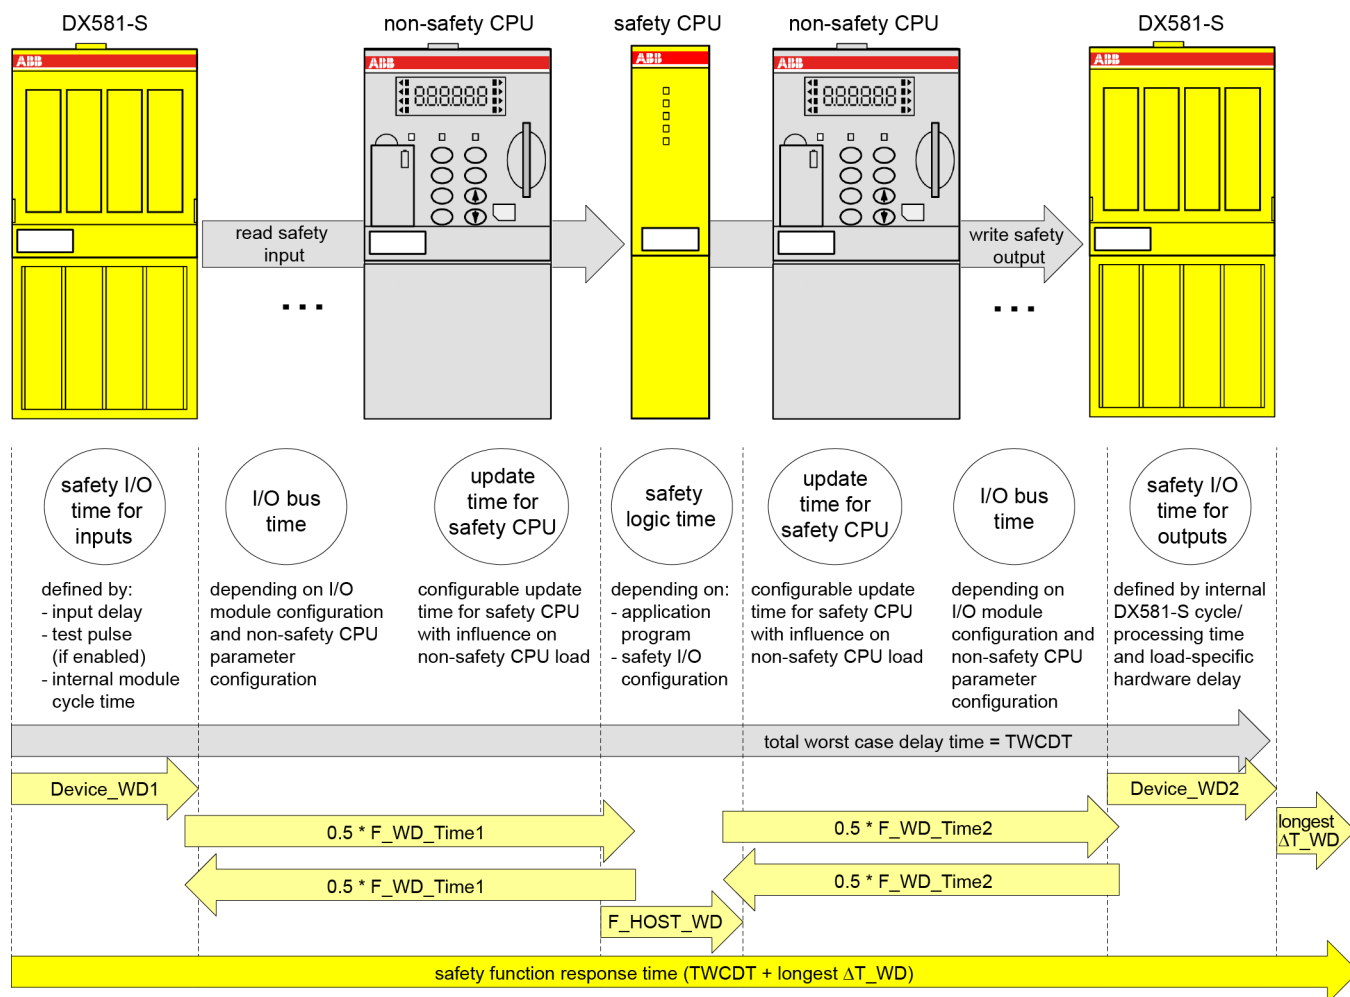
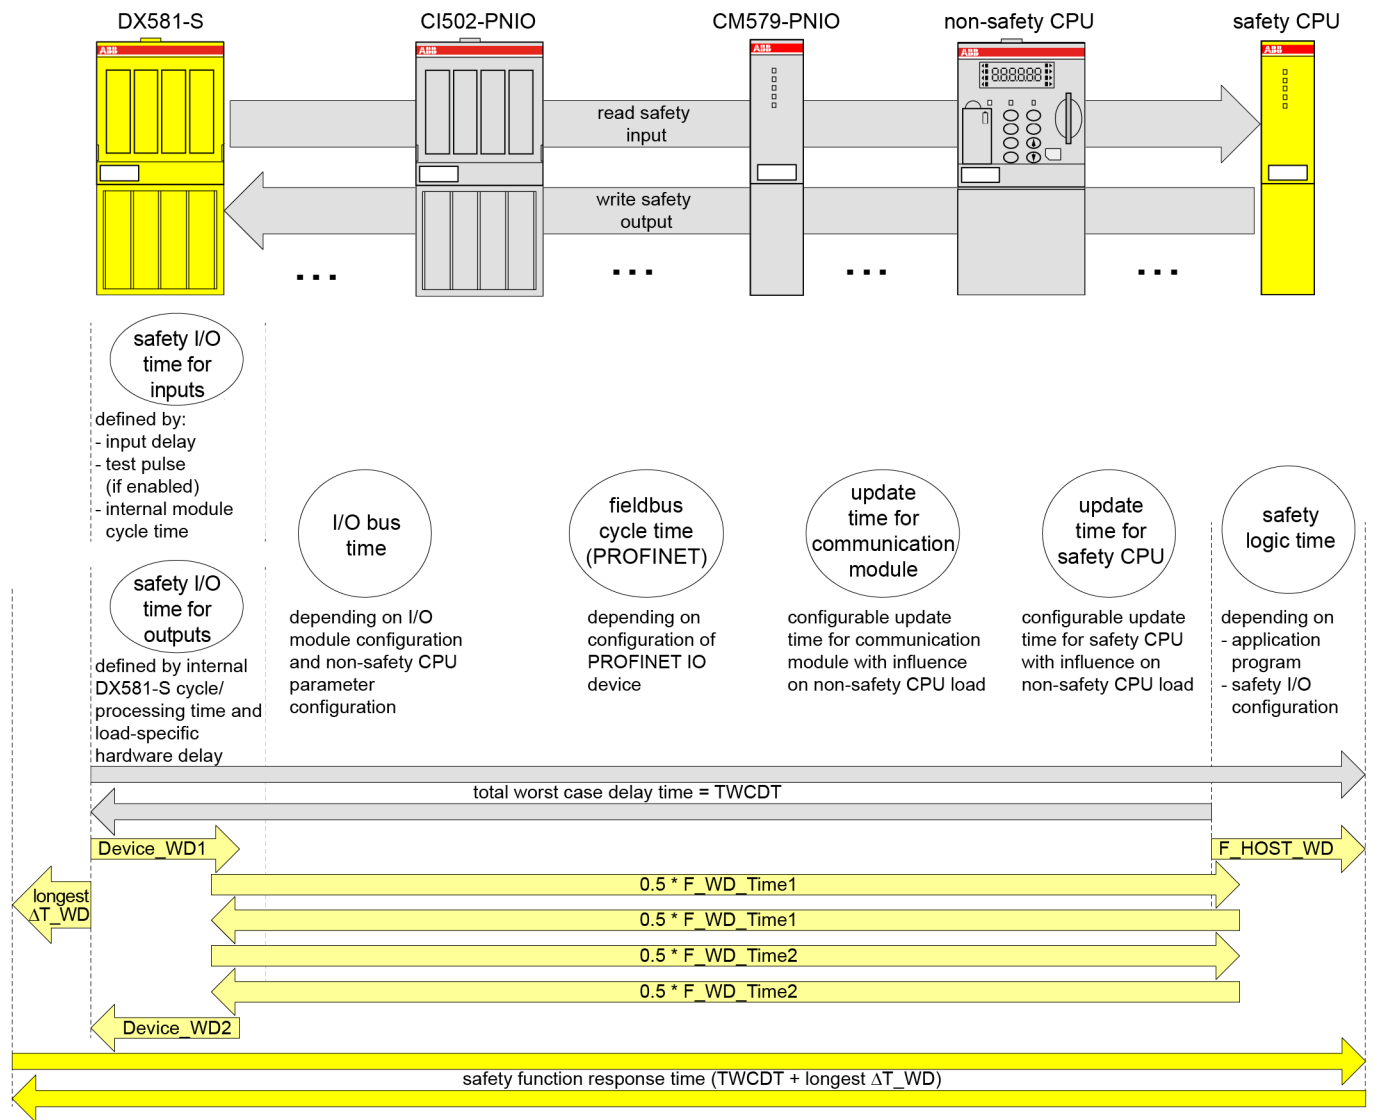
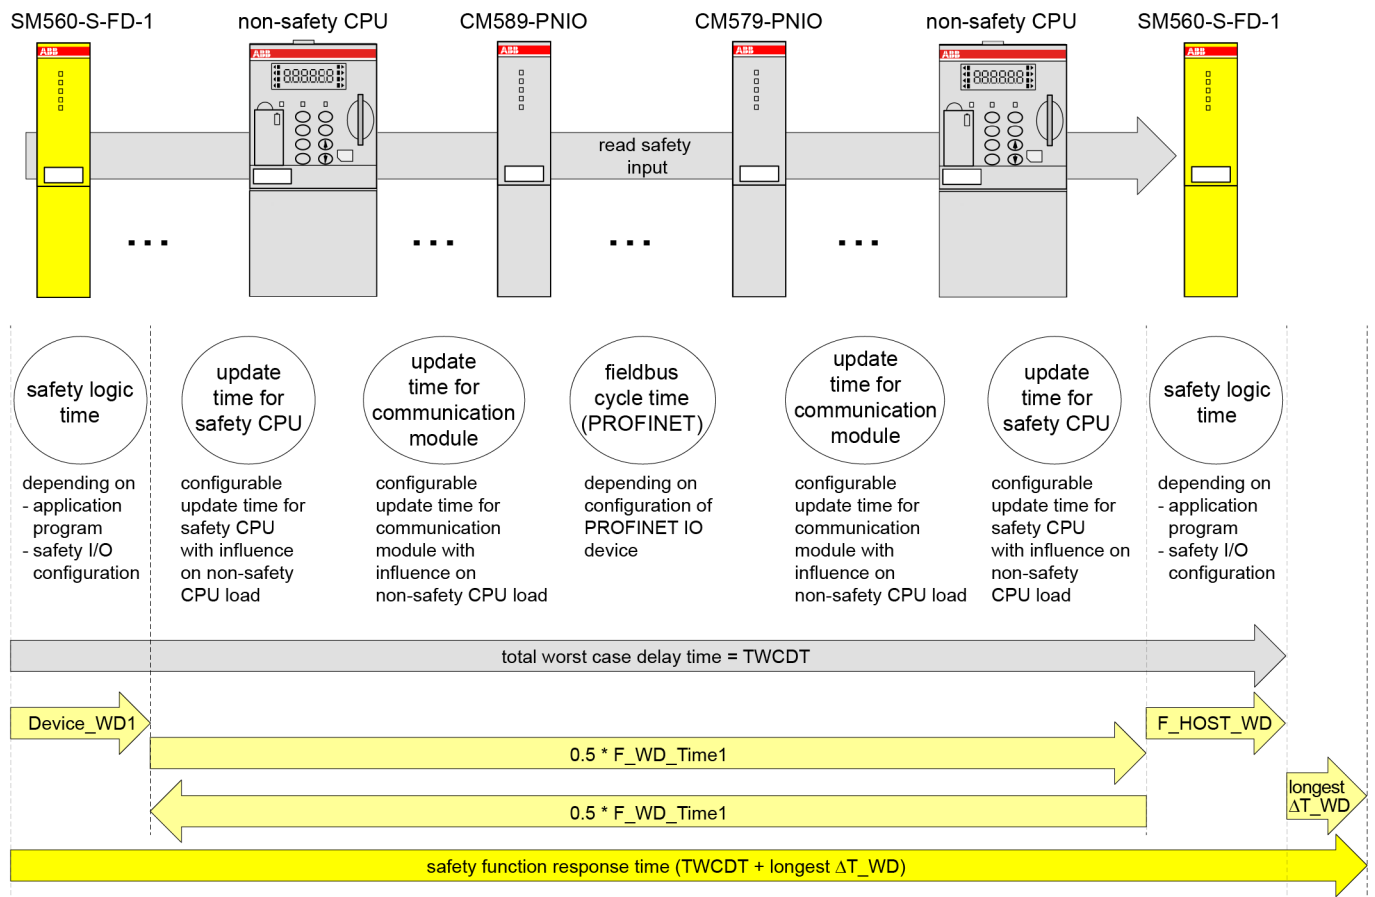

Fig. 123: SFRT in AC500-S system without PROFINET components
Fig. 124: SFRT in AC500-S system with PROFINET components and safety I/O modules
Fig. 125: SFRT in AC500-S system with PROFINET components and safe CPU to CPU communication (example: SM560-S-FD-1 to SM560-S)
Fig. 123, Fig. 124 and Fig. 125 explain SFRT in more details. The model in Fig. 123 and Fig. 124 includes the stages of input signal reading, safe data transfer, safe logic processing, safe data transfer and safe signal output. The model in Fig. 125 presents safe CPU to CPU communication, which includes the stages of safe logic processing, safe data transfer and safe logic processing.
The following terms are defined in Fig. 123, Fig. 124 and Fig. 125 (in alphabetical order):
- Device_WD1 and Device_WD2, as worst case delay times for safety I/Os, can be defined as it is shown in Fig. 123 and Fig. 124.
- To calculate the worst case delay time of "Black channel" components (refer to AC500 non-safety modules in Fig. 123 and Fig. 124), we propose to use half of F_WD_Time1 and F_WD_Time2 instead. F_WD_Time1 and F_WD_Time2 can be empirically obtained for the given AC500 system configuration by tracing the values of tResponseTimeMS for given safety I/Os in the safety application. Use PROFI-safe instance for the given safety I/O ↪ *Chapter 4.6.3 "SafetyBase_PROFI-safe_LV210_AC500_V22.lib" on page 197*. F_WD_Time1 and F_WD_Time2 shall be set about 30 % higher than the worst case value observed in the tResponseTimeMS for the given safety I/O.
Based on Fig. 123, Fig. 124 and Fig. 125, the following exemplary SFRT values can be achieved for some typical AC500-S configurations using Equation 2 on page 338: